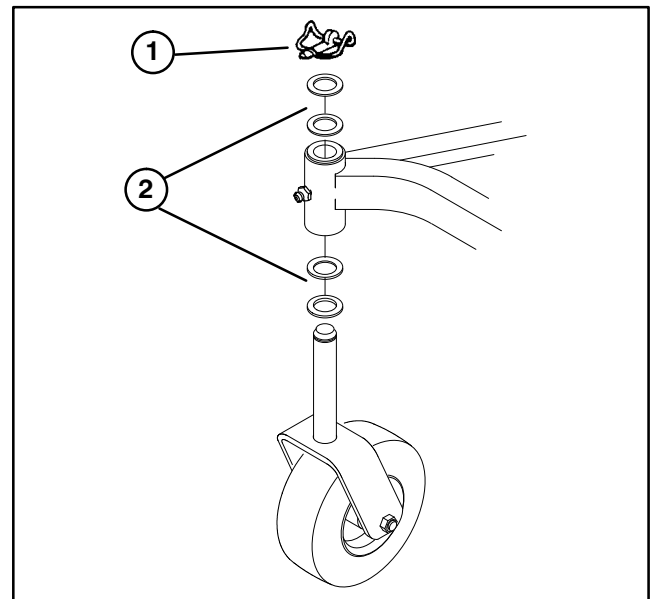

Figure 24
4. Insert pin punch into top or bottom of mounting tube and drive bushing out of tube (Fig. 24). Also drive other bushing out of tube. Clean inside of mounting tube to remove any dirt.